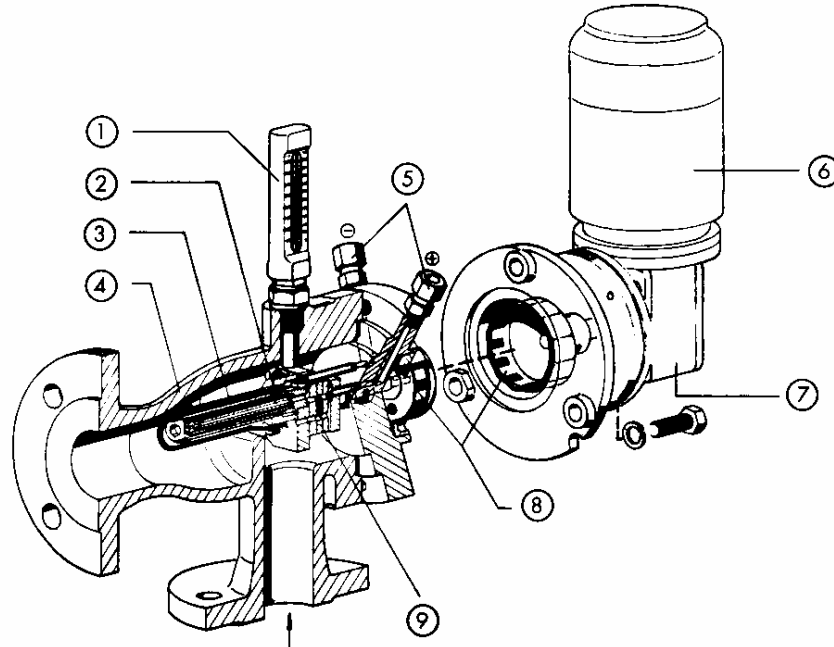

Figure 2, Sectional view of Viscotherm sensor
Viscotherm is a capillary type of viscosity instrument and measures the dynamic viscosity of Newtonian fluids. The sensor (Fig. 2) consists of a housing (4) in which the measuring element, a capillary tube assembly (2 & 3), is mounted together with a gear pump (9). An electric motor (6) with reduction gear (7) drives the pump such that a continuous flow through the capillary tubes is achieved. The laminar flow through the measuring capillary creates a pressure differential which is proportional to the dynamic viscosity of the fuel. A magnetic coupling (8) prevents both leakage and overload of the electric motor in the event of an obstructed pump.